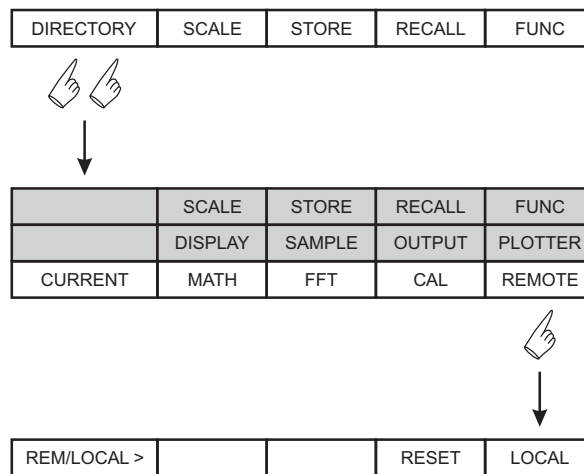

Figure 3.1: Preparing the oscilloscope for external control through GPIB.
3. Using the control panel of the oscilloscope, press the SEL key twice and then the F4 (REMOTE) key as shown in Fig. 3.1.